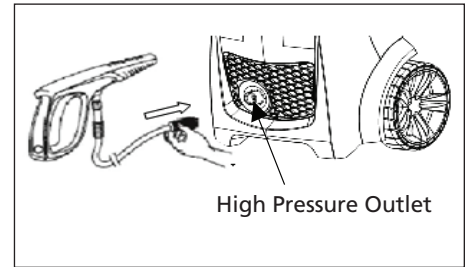

Figure 16 - Attach high pressure hose to high pressure outlet (model PW1825 only)
5. Attach high pressure hose to high pressure outlet (see Figure 16).
10. Attach high pressure hose to high pressure outlet (see Figure 16).